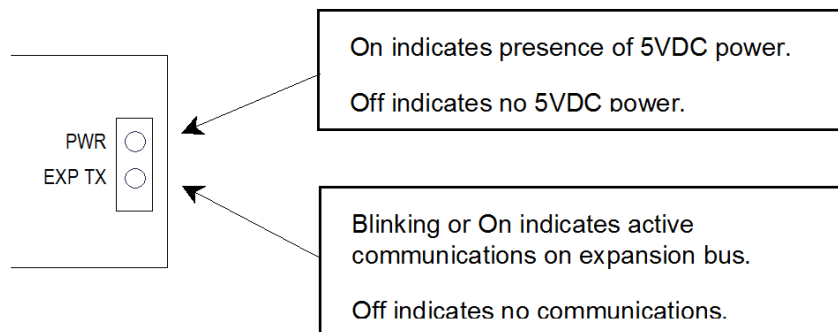

Figure 24: Observe LEDs on Expansion Transmitter Module
- 4) After completing any additional system installation steps, apply power and observe the LEDs on the module (Figure 24).